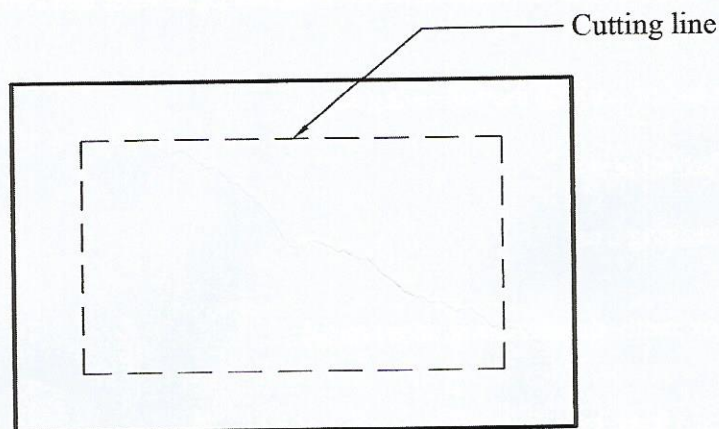

Figure 5
- (c) **Figure 5** shows the outline of a rectangular shape to be cut on a manufactured board.